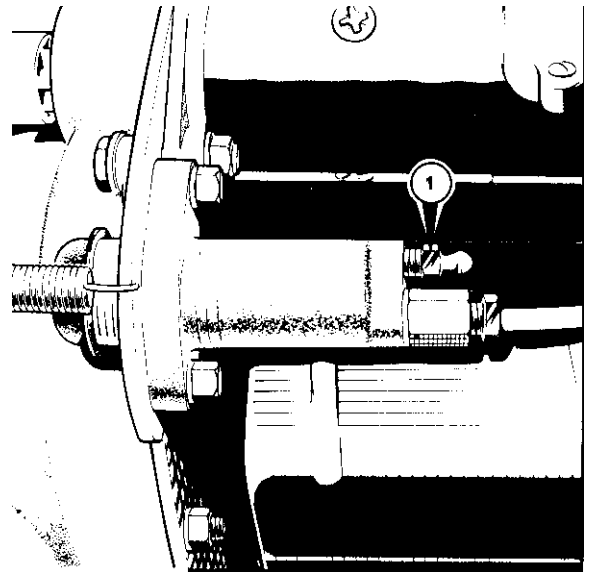

Figure 4 Clutch slave cylinder 750cc
1. Clean the area surrounding the bleed screw on the slave cylinder and remove the rubber dust cap from the bleed screw. (Figure 4)
The clutch slave cylinder (Figure 4 & 5)